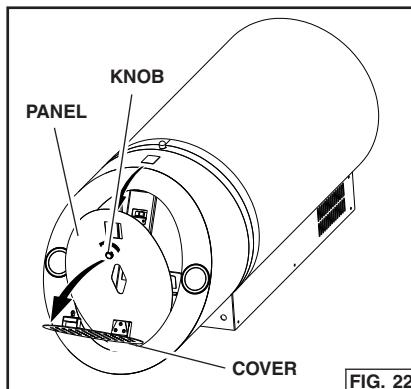

FIG. 22
2. Insert the grease filter. Fig. 22.
4. Close the bottom cover and remove all of the protective coating. Fig. 22.